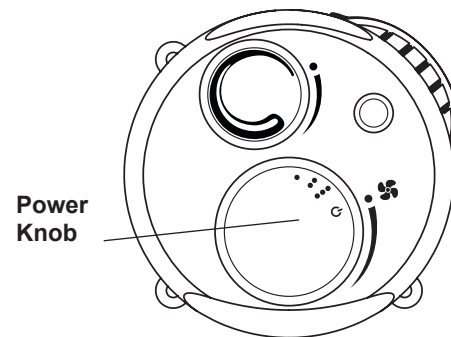

Figure 9
2. **Power Knob** – Allows you to set a desired speed level. See Figure 9.